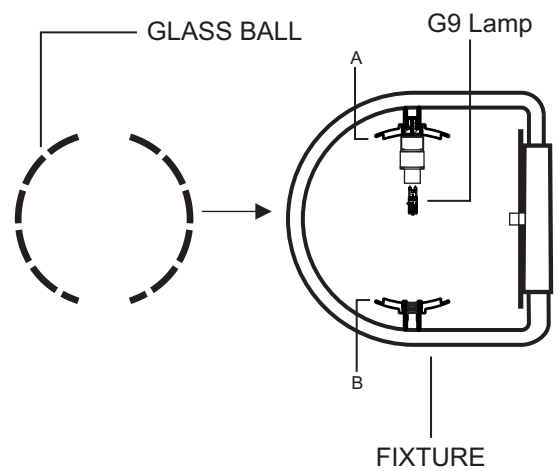

FIGURE-03
7. Install the glass ball to the fixture by securing it with plates A & B. (See Figure-03)